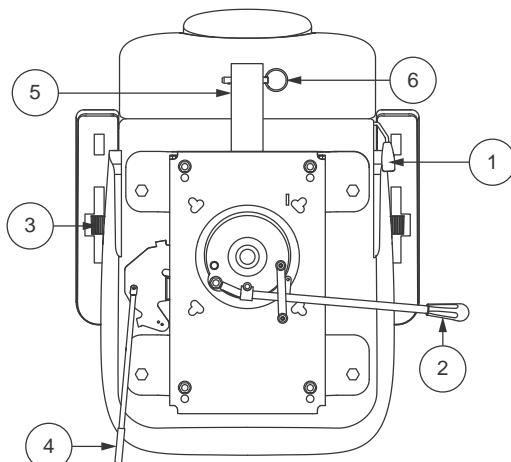

Figure 15. Seatback Adjustment
To adjust your PMV's reclining seat, you can adjust the seatback angle with the seatback adjustment lever. See figure 15.
1. Pull upward on the seat rotation lever to disengage the seat. See figure 15.
Armrest angle of your PMV can be adjusted upwards or downwards by turning the adjustment dial. See figure 15.
1. Move the seat sliding lever located at the lower left side of the seat outward. See figure 15.
The rear-mounted accessory bracket allows you to attach a personal accessory such as a basket, walker holder, or oxygen tank to the back of your PMV. Utilize the detent pin to securely mount your item to the accessory bracket. See figure 15. See your authorized Provider for details.